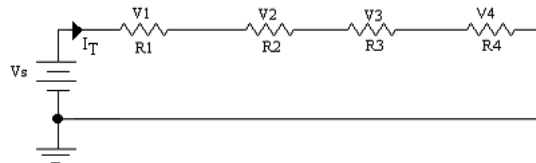

Figure 1.1: Series Circuit for calculations
1. Calculate  $I_T$ ,  $R_T$ ,  $V_1$ ,  $V_2$ ,  $V_3$ , and  $V_4$  in Figure 1, assuming  $V_S = 12V$ ,  $R_1 = 220 \Omega$ ,  $R_2 = 330 \Omega$ ,  $R_3 = 470 \Omega$ , and  $R_4 = 1 \text{ k}\Omega$ . Redraw the circuit showing assigned voltage polarities and assigned current directions. Show all computer simulation for Figure 1.1. Prepare a table that will contain calculated and measured values.
2. Show that all the voltages found in Figure 1.1 satisfy KVL?
1. Construct the circuit shown in Figure 1.1. Do not connect the source. Measure  $R_T$  with the DMM.
2. Connect the source as shown in Figure 1.1. Measure and tabulate  $V_1$ ,  $V_2$ ,  $V_3$ ,  $V_4$ ,  $V_T$  and  $I_T$ .